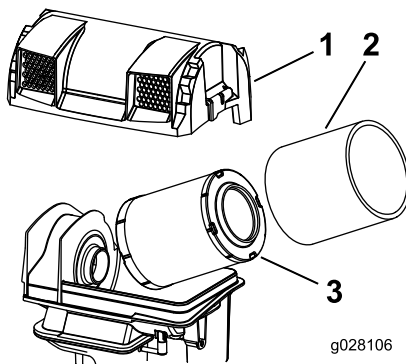

Figure 35
3. Remove the foam and paper elements (Figure 35).
4. Remove the foam element from the paper element (Figure 35).
2. Install the elements onto the air-cleaner base (Figure 35).